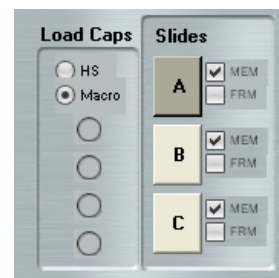

Figure 39 Cap and slide handling area
1. To the left of the slide overview image, in the cap and slide handling area at the bottom of the screen, tap the **Slide** button (see Figure 39) for the slide of interest.
You can view the slide type in the cap and slide handling area to the left of the slide overview image (see Figure 39).